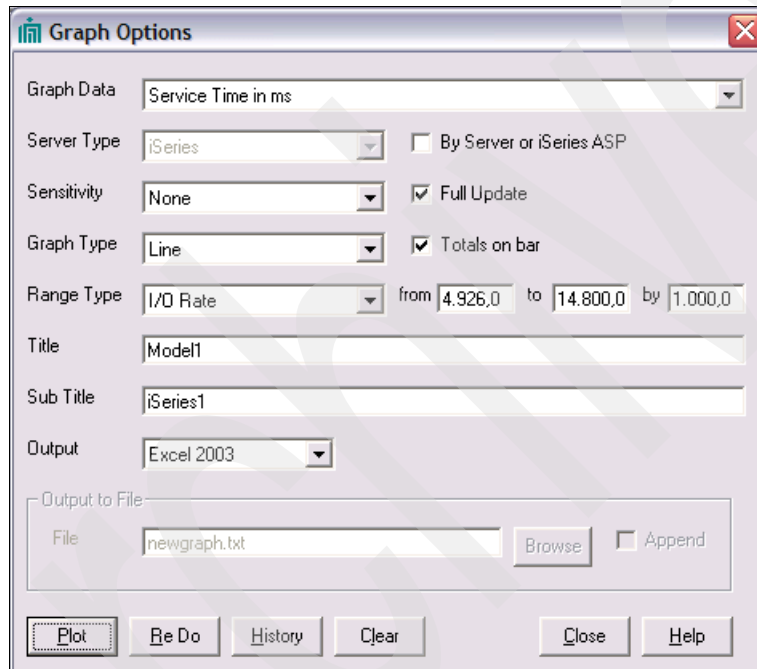

Figure 4-45 Graph options for disk response time
a. In the Disk Subsystem - iSeries1 window, click **Graph**. In the Graph Options window (Figure 4-45), select the following options: